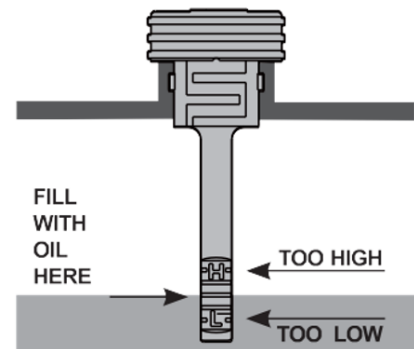

Fig. 4
- Insert the dipstick into the oil filler hole to check the oil level; add fresh engine oil if the level is below the recommended amount, but do not overfill. See Fig. 4 for more information.